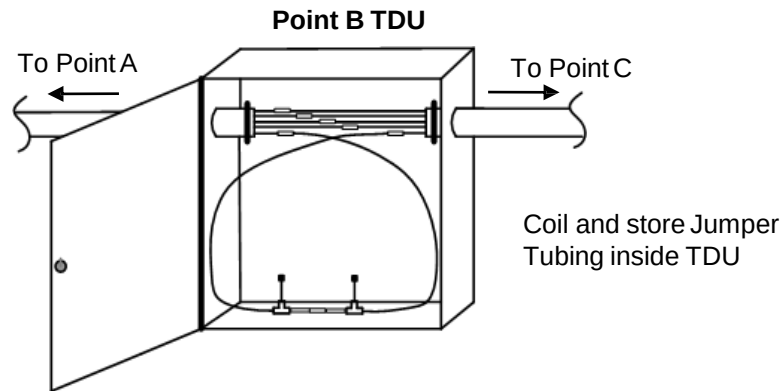

Figure 10
12.4 Carefully coil all jumper tubing and store inside Point B TDU. **See Fig. 10.**